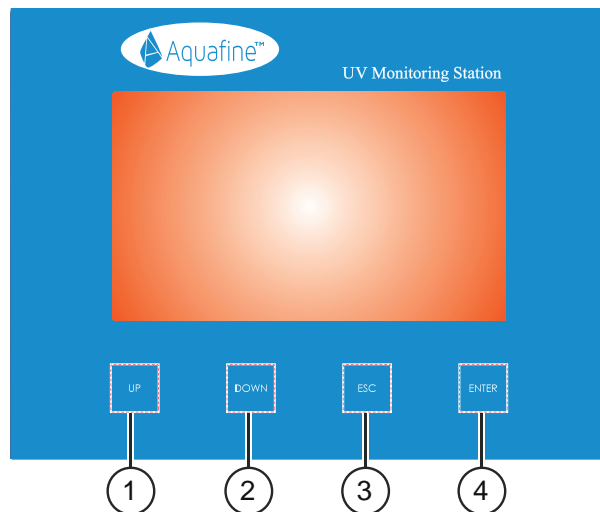

Figure 12 Microprocessor Interface
The microprocessor user interface (Figure 12) on the CPP is a HMI display that is programmed with custom screens.
1. Use the UP/DOWN (Figure 12) keys to scroll to the required navigation button → ENTER.